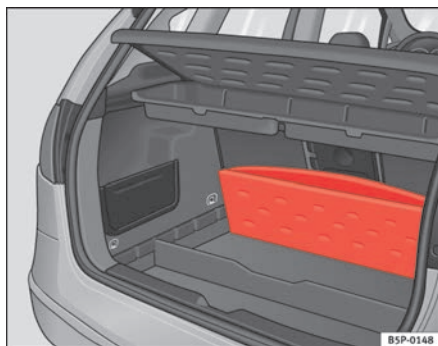

Fig. 105 Foldable luggage compartment cover
- Lift the luggage compartment floor and fold it back all the way ⇒ fig. 105.